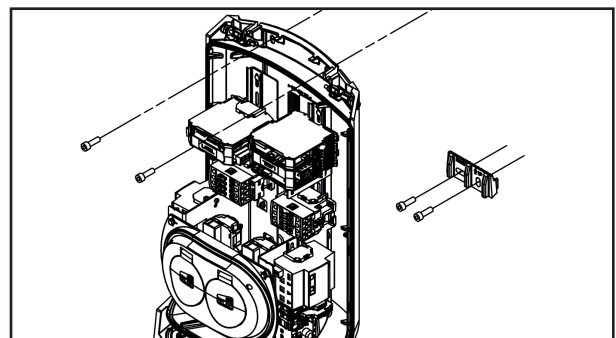

Fig. 2: Attachment to the wall
2. Attach the rear spoiler at the top with two screws (diameter: at most 8 mm) at the designated location (see Fig. 2)